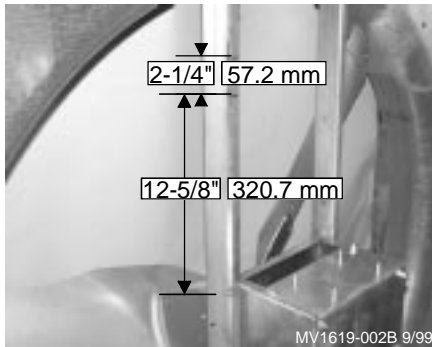

Figure 1. Bolt Hole location for Bracket
4. Measure and mark 12-5/8" up from the top of motor mount surface on each post and 5/8" in from the back edge of the post, **see Figure 1**. Mark a second hole 2-1/4" directly up from the first hole on each post.